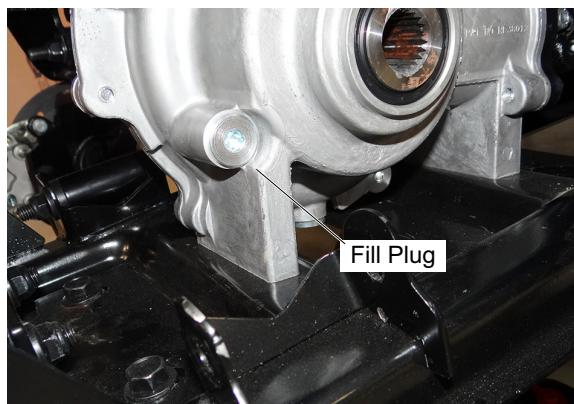

Fig. 18 Fill and Drain Plugs
7. Remove the nuts (28) and bolts (27) that secure each side of the upper control arm to the vehicle frame (Ref. Fig. 18).